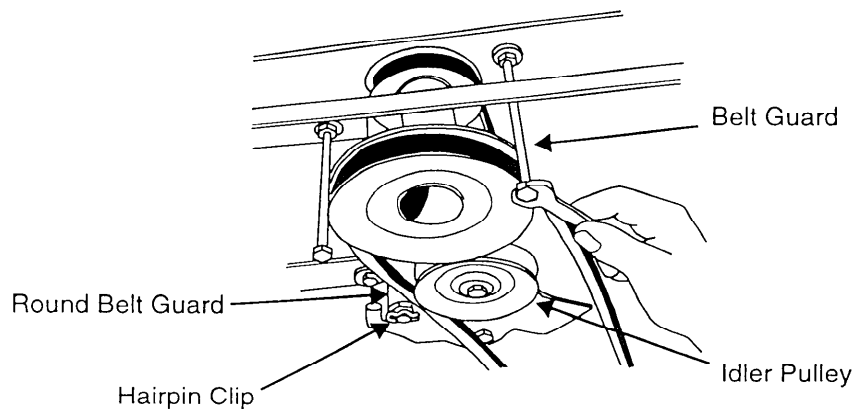

Figure 5
NOTE: If your tractor is so equipped, remove the round belt guard from the idler on tractor by removing the hairpin clip. See Figure 5.
- Remove the engine pulley belt guard by either unscrewing the belt guard release and swinging the engine pulley belt guard out of the way or by removing the two long hex bolts which act as belt keepers. See Figure 5.